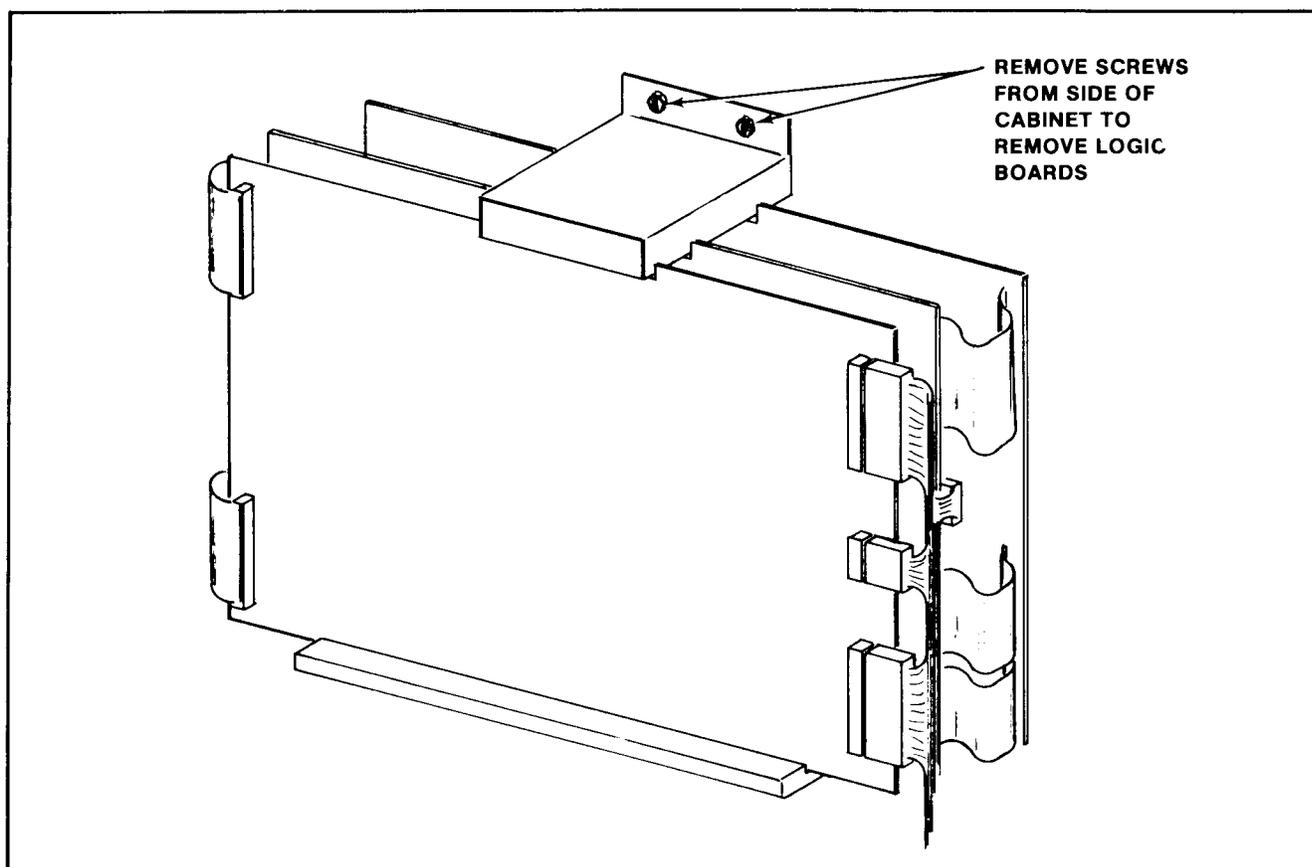

Figure 4-14 Removing PCBs From Card Rack
- To remove the P.C. boards from the card rack. See Figure 4-14.